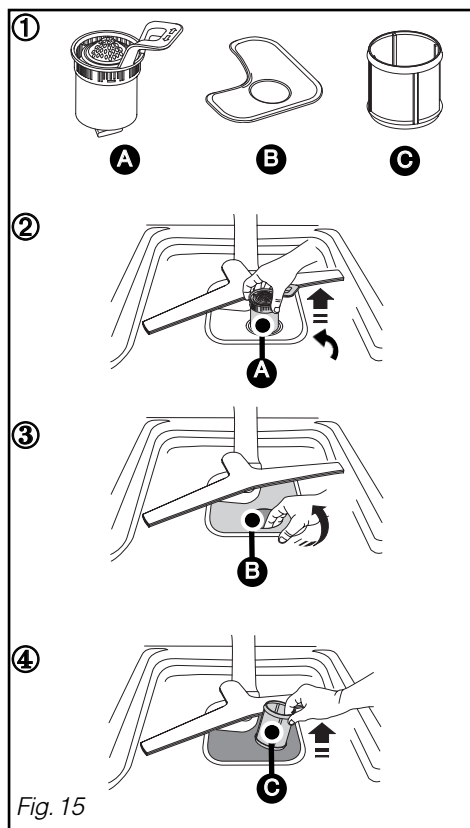

Fig. 15
① Before removing the filters, remove the waste from the large main filter Ⓑ using a sponge, to prevent this waste from blocking the sprinkler arms. Position the sprinkler system as shown in the diagram (Fig. 15)
② Turn the waste filter a quarter of a turn and remove it Ⓐ .
③ Remove the main filter Ⓑ .
④ Remove the microfilter mesh Ⓒ .